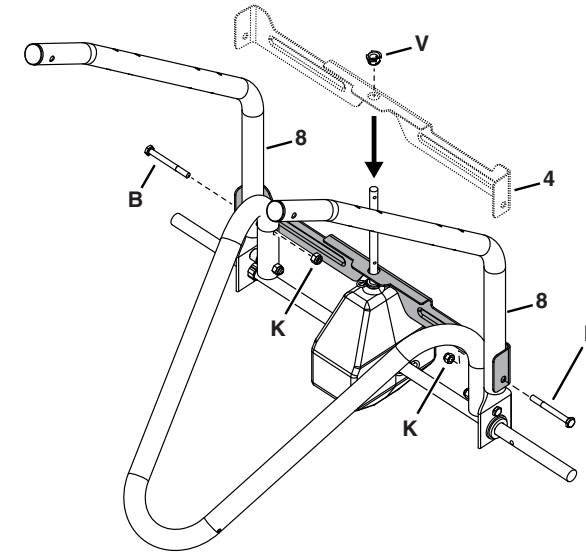

Figure 3
STEP 3: (SEE FIGURE 3)
- Insert the bushing (V) into the cross brace (4).
- Slide the cross brace (4) onto the vertical gearbox shaft and attach the cross brace to the hopper support tubes (8) using two 1/4" x 2-1/2" hex bolts (B) and 1/4" nylock nuts (K). **Do not tighten completely.**